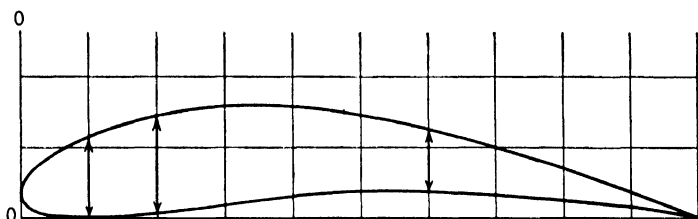

Fig. 193.
Since the wing rib is not a flat form, there is a different thickness at every station, and a maximum thickness at about one-third of the way back from the leading edge (see Fig. 193).
2. Figure 193 shows an accurate drawing of an airfoil. Make a table of data accurate to the nearest 64th for this airfoil, so that it could be drawn from the data alone.
3. Find the thickness of the airfoil in Fig. 193 at all stations, by actual measurement. Check the answers thus